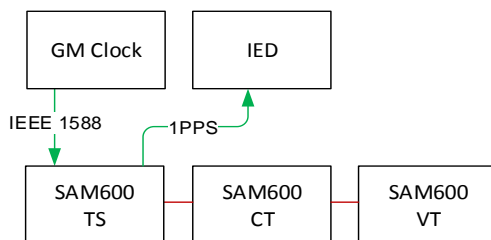

Figure 2: SAM600 IEEE 1588 synchronization
- *Synchronization by IEEE 1588* – Any SAM600 module can synchronize against an external IEEE 1588 master clock (see Figure 2) with an accuracy of 1µs in order to ensure synchronous sampling. If a SAM600-TS device is available in the system chain, then the 1PPS outputs are synchronized against the IEEE 1588 signal and can be used for synchronizing client devices such as IEDs.